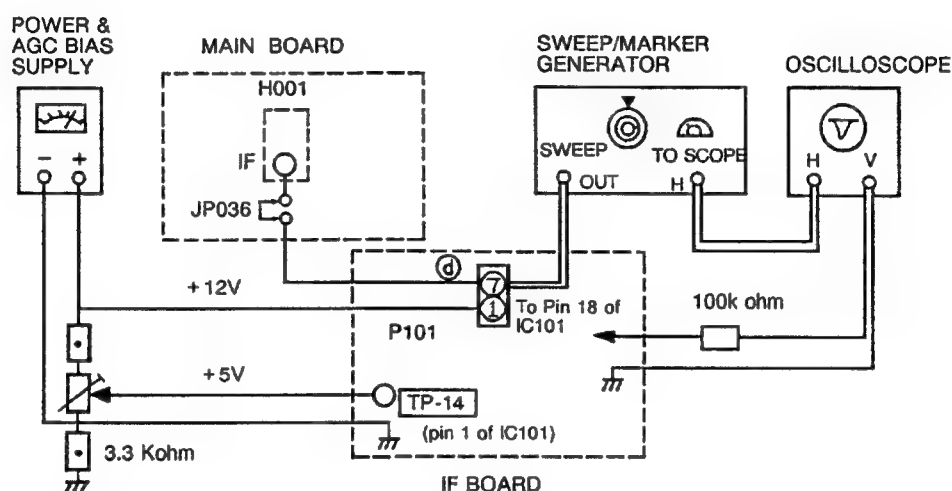

Figure 10. Picture IF Sweep Alignment
SWEEP/MARKER GENERATOR.....	Connect to the point ④ as shown in Figure 10 on the IF Board.
- GENERAL..... Refer to Figure 10 for test equipment connection.
- PRELIMINARY STEPS 1. Disconnect the jumper wire 036 (see Figure 10.) on the component side of the MAIN Board.
- SWEEP/MARKER GENERATOR..... Connect to the point ④ as shown in Figure 10 on the IF Board.